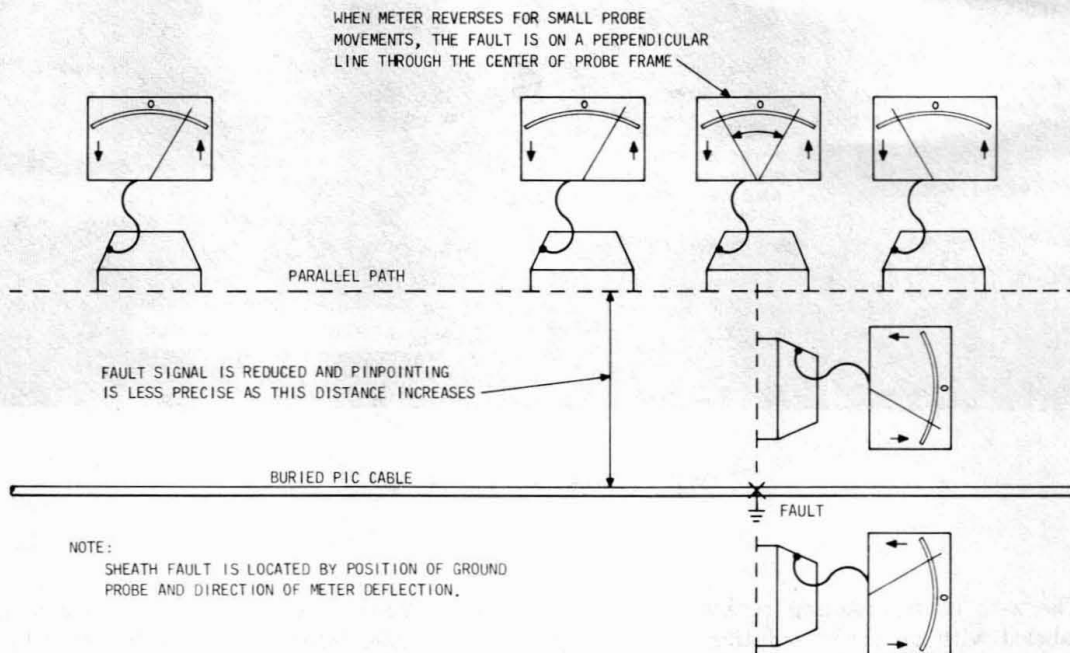

Fig. 12—Direction to Sheath Fault
5.19 As the operator proceeds along the cable path, away from the transmitter, the meter deflection will decrease. However, as the fault is approached the signal will increase and as the fault is passed the meter deflection will reverse sharply. The receiver indications for various ground probe positions relative to the fault location are illustrated in Fig. 12.
5.21 When the meter reverses for small ground probe movements, the fault is on a perpendicular line through the center of the ground probe frame. The actual spot may then be pinpointed by tracing the cable path through the area or by turning the probe frame 90 degrees and repeating the locating process (Fig. 12).